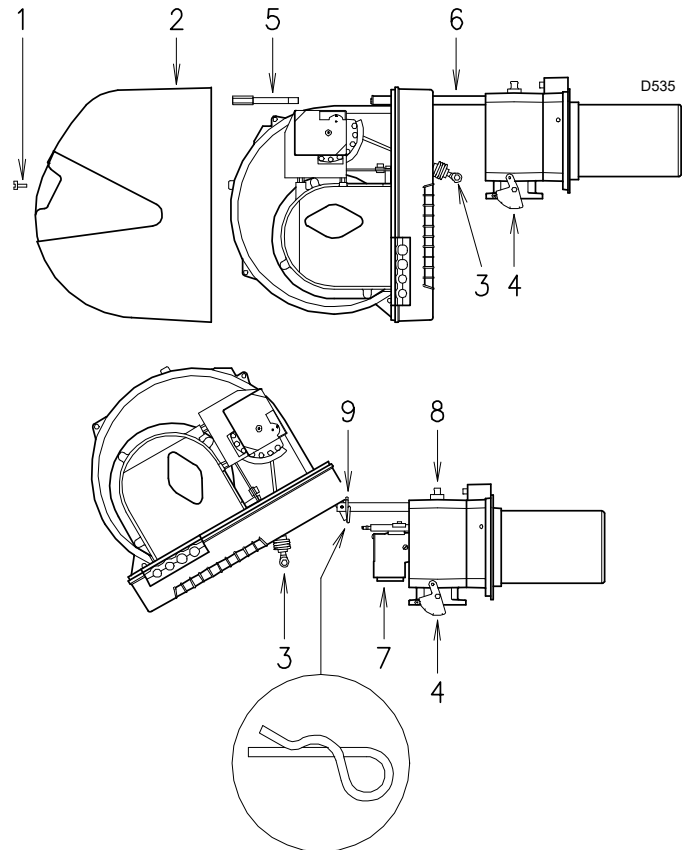

Fig. 40
- Remove screw 1) and take out cover 2)(Fig. 40).
- Disengage the articulated coupling 3) from the graduated sector 4)(Fig. 40).
- Remove the screw 5) and split pin 9) and pull back the burner on the guides 6)(Fig. 40) by about 100 mm. Disconnect the cables of the probe and electrode, then pull the burner back completely.
Now extract the gas distributor 7) after having removed the screw 8)(Fig. 40).
- Remove the split pin 9)(Fig. 40) and push the burner until it is approx. 100 mm from the pipe coupling.
- Reposition the screw 5) and split pin 9)(Fig. 40) and carefully pull the probe and electrode cables outwards until they are slightly taut;
- Re-couple the articulated coupling 3) to the graduated sector 4)(Fig. 40).